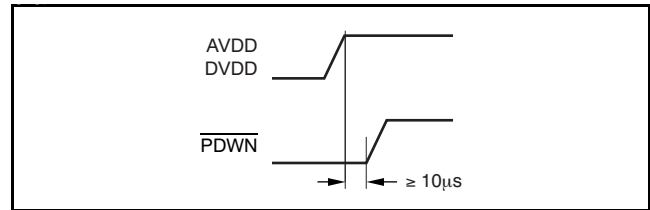
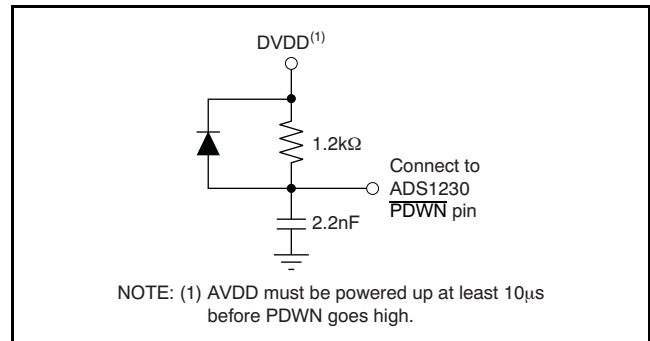

Figure 30. Power-Up Timing Sequence
Figure 31. RC Delay Circuit
When powering up the ADS1230, AVDD and DVDD must be powered up before the PDWN pin goes high, as shown in Figure 30. If PDWN is not controlled by a microprocessor, a simple RC delay circuit must be implemented, as shown in Figure 31.
- Added Power-Up Sequence section with new text and two new figures (Figure 30 and Figure 31) 19